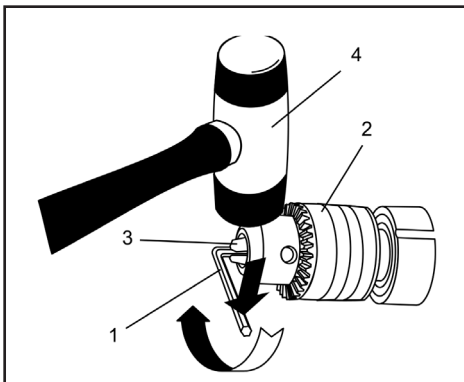
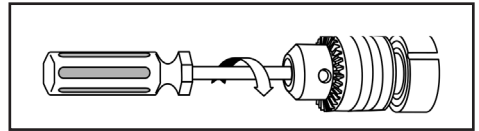

Fig.8
Fig.9
2. Insert a 5/16" (8 mm) or larger hex key (1) into the chuck (2) and tighten the chuck jaws securely (Fig. 8). Make sure each of the chuck jaws (3) is seated on the flat surfaces of the hex key.
3. Tap the hex key sharply with a mallet (4) in a clockwise direction. This action will loosen the screw in the chuck for easy removal.
6. Remove the chuck screw using a #2 screwdriver (Fig. 9).